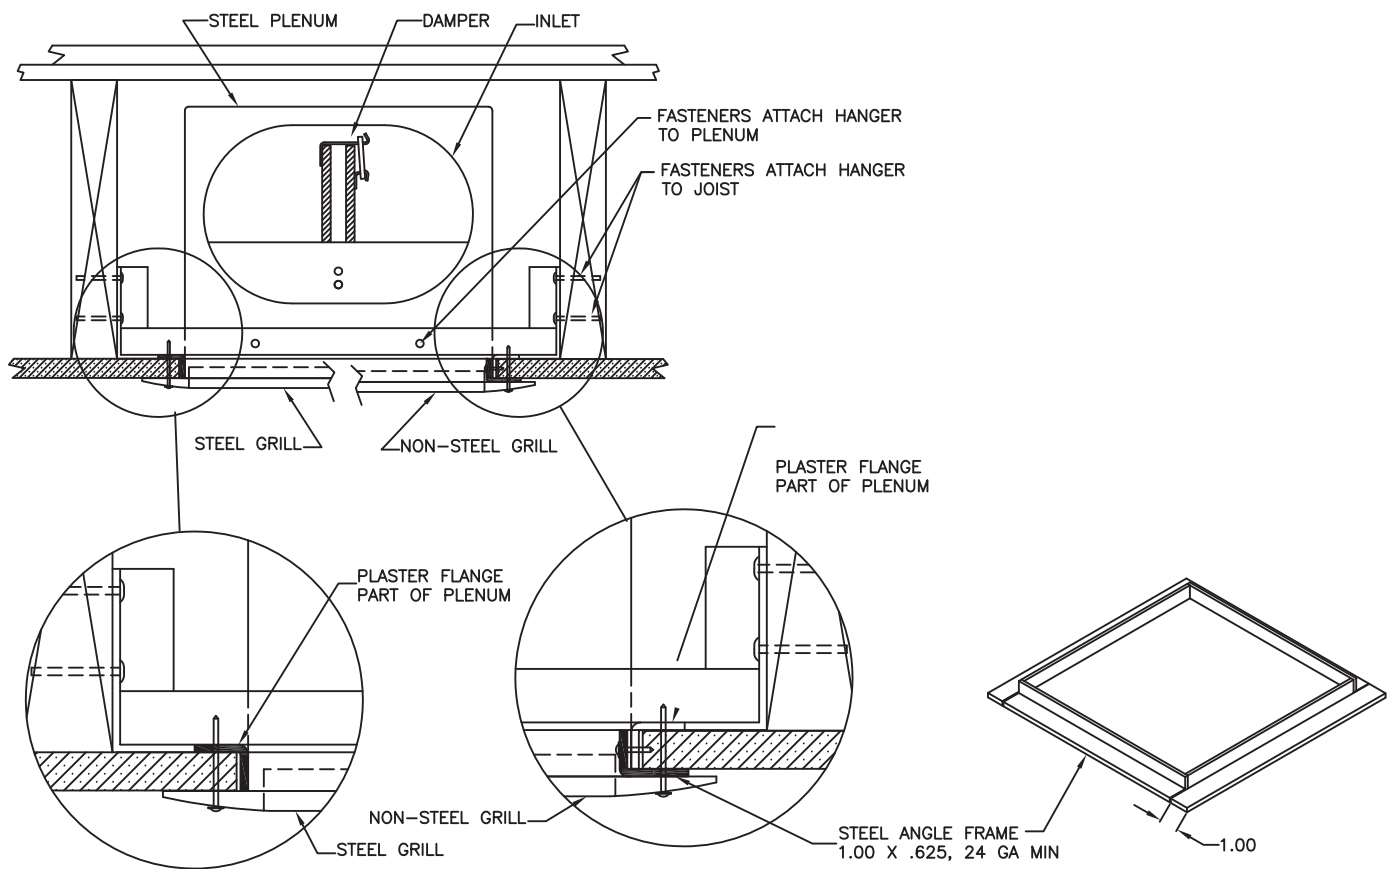

Figure 4
- 2) Insert the damper assembly, with attached mounting angles, between ceiling joists and attach to joists using minimum 2 - #8 x 3/4 in. (19 mm) nails per side - see **Figure 4 & 5**.